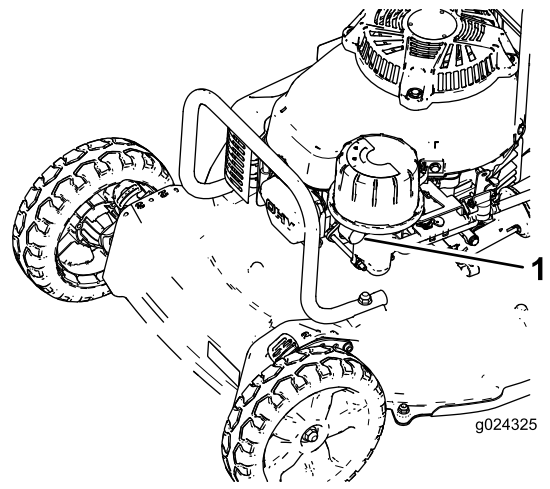

Figure 14
3. Firmly push in the primer (Figure 14), holding the primer bulb in for 1 second.